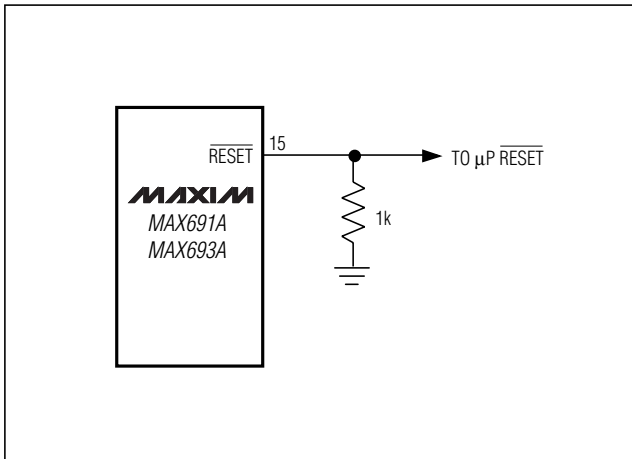

Figure 1. Adding an external pull-down resistor ensures  $\overline{\text{RESET}}$  is valid with  $V_{\text{CC}}$  down to GND.
guaranteed to be valid down to VCC = 1V, and an external 10kΩ pull-down resistor on  $\overline{\text{RESET}}$  insures that it will be valid with VCC down to GND (Figure 1). As VCC goes below 1V, the gate drive to the RESET output switch reduces accordingly, increasing the RDS(ON) and the saturation voltage. The 10kΩ pull-down resistor insures the parallel combination of switch plus resistor is around 10kΩ and the output saturation voltage is below 0.4V while sinking 40µA. When using a 10kΩ external pull-down resistor, the high state for  $\overline{\text{RESET}}$  output with VCC = 4.75V will be 4.5V typical. For battery voltages ≥ 2V connected to VBATT,  $\overline{\text{RESET}}$  and RESET remain valid for VCC from 0V to 5.5V.